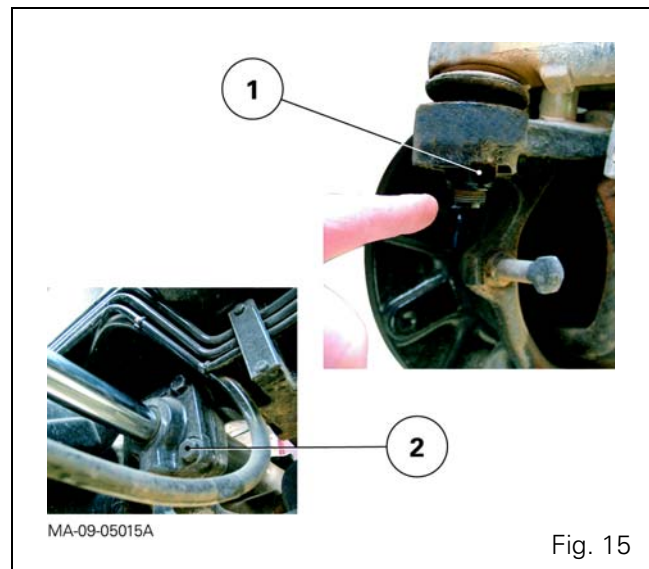

Fig. 15
36. Remove the locknuts (1) (Fig. 15) and drive out the steering pivot balls using a suitable extractor tool.
39. Take out the screws (2) (Fig. 15) and remove the ram.
- steering pivot ball nuts (1) to a torque of 220 Nm (Fig. 15);